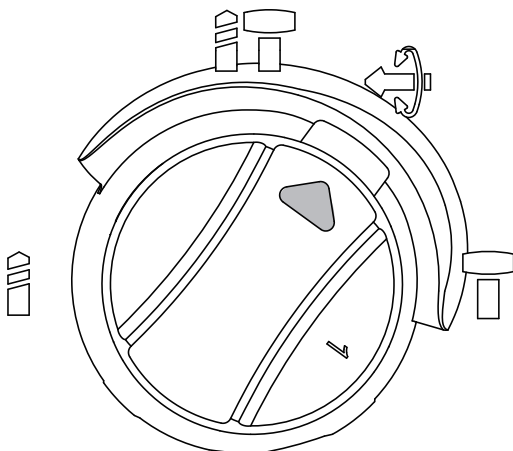

Figure 9
6. BIT ROTATION FUNCTION (SEE FIG. 9)